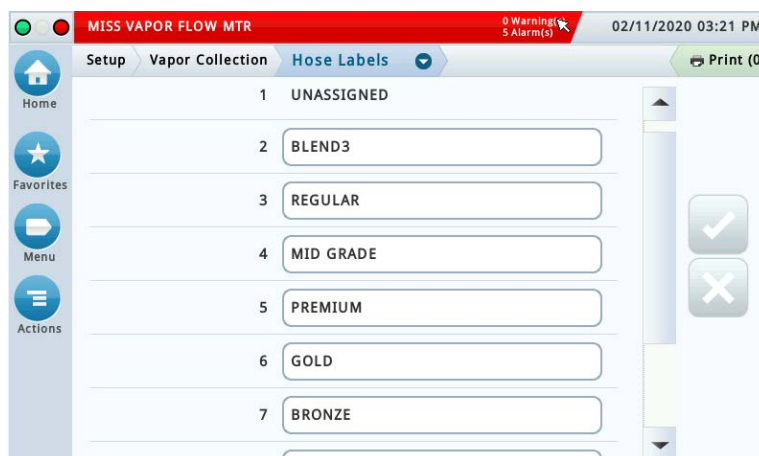

Figure 13. Vapor Collection Hose Labels Setup Screen
2. Touch Hose Labels to access the Vapor Collection Hose Labels setup screen (Figure 13).